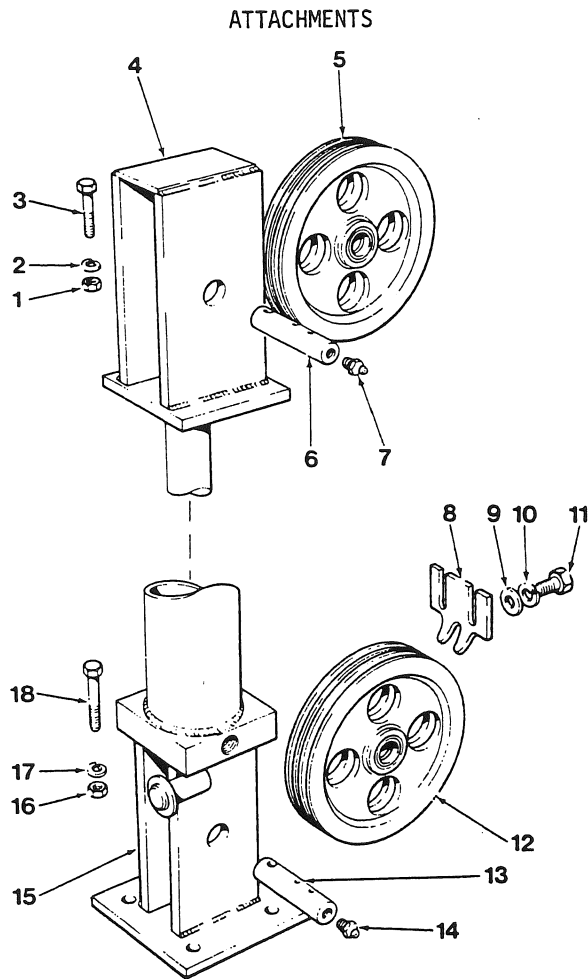

Figure 17
- e. Remove the hexagon head bolts (3 and 18, Fig. 17), nuts (1 and 16, Fig. 17) and lockwashers (2 and 17, Fig. 17) retaining the sheave pins (6 and 13, Fig. 17). Remove the sheave pins and sheaves (5 and 12, Fig. 17). Remove the two hexagon head capscrews (11, Fig. 17), lockwashers (10, Fig. 17) and flatwashers (9, Fig. 17), and remove the ice scraper (8, Fig. 17).
KEY TO FIG. 17
- g. Install the sheaves (5 and 12, Fig. 17) into the sheave housings, and retain with the sheave pins (6 and 13, Fig. 17). Retain the pins with the
- hexagon head bolts (3 and 18, Fig. 17), nuts (1 and 16, Fig. 17) and lockwashers (2 and 17, Fig. 17). Install the ice scraper (8, Fig. 17), and retain with the two hexagon head cap screws (11, Fig. 17), lockwashers (10, Fig. 17) and flatwashers (9, Fig. 17).